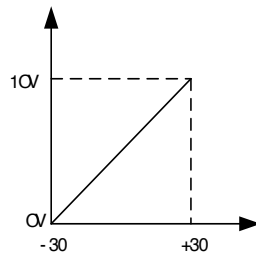

Figure 5-13 Corresponding relation of synergy voltage deviation
3. Corresponding relation of synergy voltage deviation is shown in Figure 5-13.